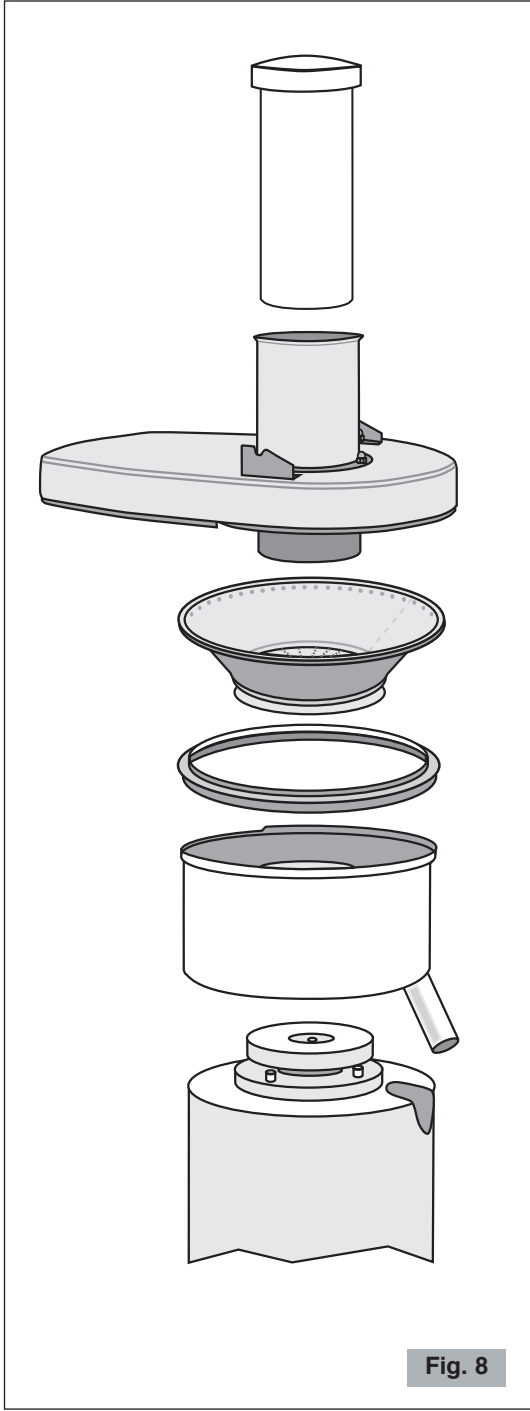
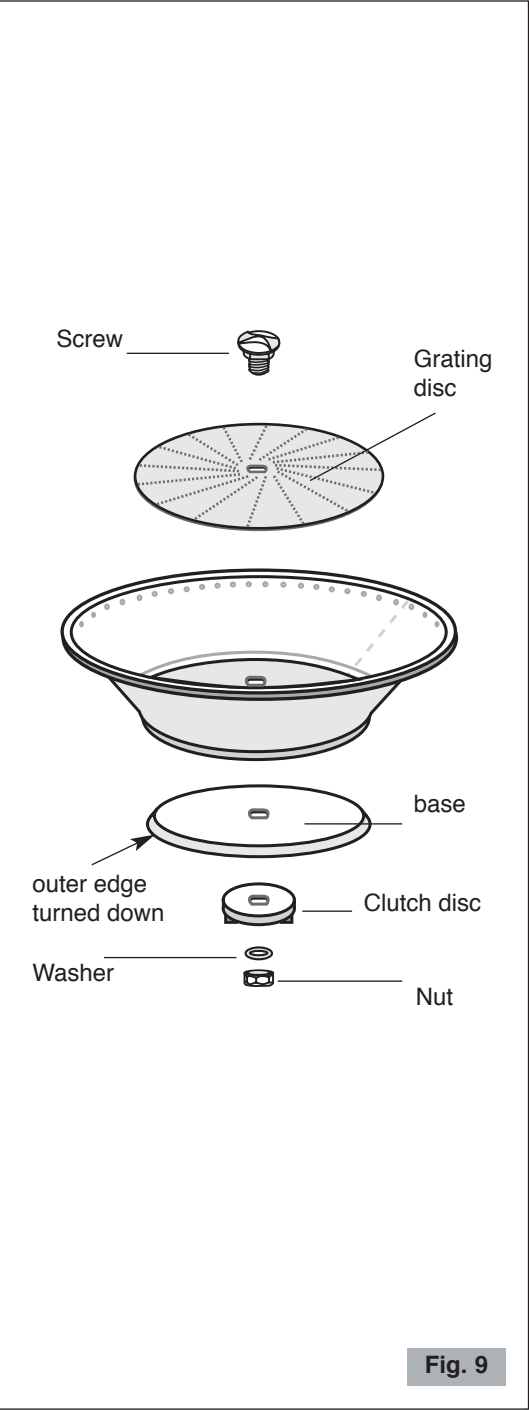

Fig. 8
Fig. 9
Before first use: rinse all of the parts that will have contact with food in running water i.e.:- food pusher, juicer cover, basket, bowl, pulp container and pulp retainer. To disassemble the various parts see Fig. 8, Fig. 9 and Fig. 10.
To disassemble these components, unhook the locking arm and remove in this order; food pusher, juicer cover, basket, pulp retainer, and bowl (Fig. 8, Fig. 9). Reassemble in the reverse order taking care to place the juice spout in the appropriate slot of the motor housing, place the pulp retainer correctly, place the basket in the bowl, making sure that the basket's clutch disc is correctly inserted on the drive disc and position the juicer cover on the bowl.
For a **periodic deep-cleaning** you can disassemble the parts of the basket by unscrewing the nut under the basket (Fig. 9).
**To disassemble the parts of the basket**, hold the basket still with one hand and unscrew the nut with a pipe wrench number 13 (Fig. 9). Pull the screw out of the basket. Wash all of the parts in warm water with dish soap, removing any residues with the brush. Reassemble in reverse order (Fig. 9) and make sure that the base of the basket is mounted with the outer edge turned down. **To reassemble the parts of the basket** tighten the screw to the nut with a pipe wrench number 13. Ensure that the parts are tightly attached to one another.
La primera vez que se utiliza: enjuagar con agua corriente todos los elementos de contacto con los alimentos: el empujador, la tapa, el cesto, el recipiente, el contenedor de residuos y el retentor de pulpa (para desmontar los componentes véase Fig. 8, Fig. 9 y Fig. 10).